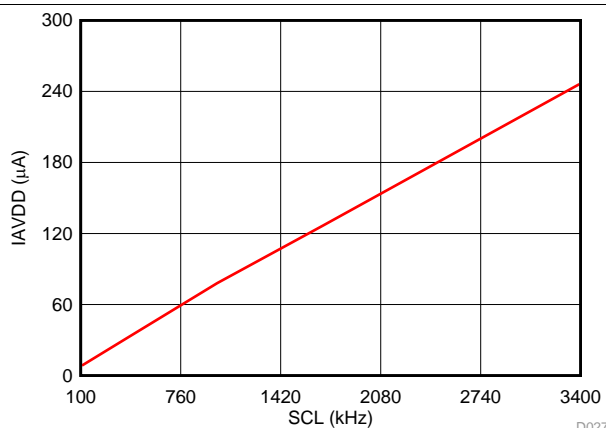
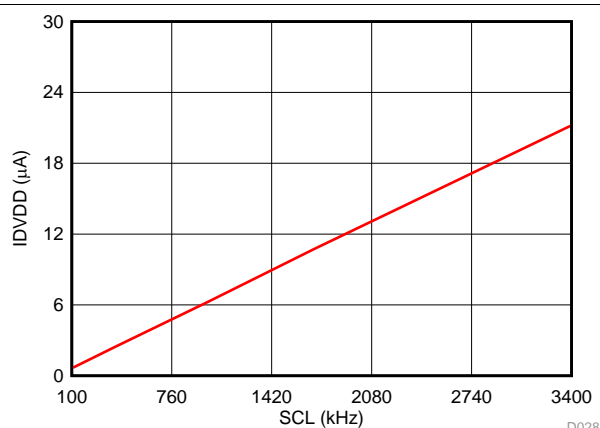

Figure 69. I_{AVDD} in Manual Mode with SCL
Figure 70. I_{DVDD} in Manual Mode with SCL
- In Manual Mode, run the device at the optimum sampling speed. Power consumption scales with Sampling Speed. In Manual Mode, the sampling speed is dependent on time period (or frequency) of SCL (Equation 7). Figure 69 and Figure 70 illustrate scaling of I_{AVDD} and I_{DVDD} with SCL in Manual Mode.